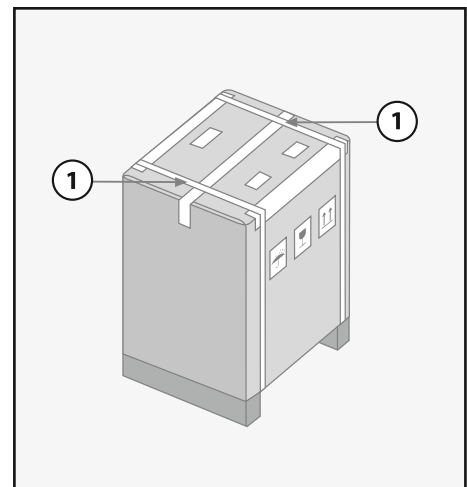

Figure 2.4: Cut plastic straps.
1. Wearing safety glasses, cut the plastic straps using a pair of scissors (see Figure 2.4). It should be noted that the plastic straps are under tension.